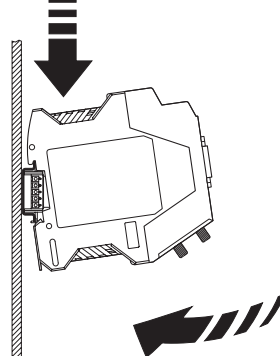

Figure 9 Assembly in the control cabinet
- Place the device onto the DIN rail from above. The upper holding keyway of the device must be hooked onto the top edge of the DIN rail (see Figure 9). Make sure that it is aligned correctly with the DIN rail connectors.
- Place the device onto the DIN rail from above. The upper holding keyway of the device must be hooked onto the top edge of the DIN rail (see Figure 9).